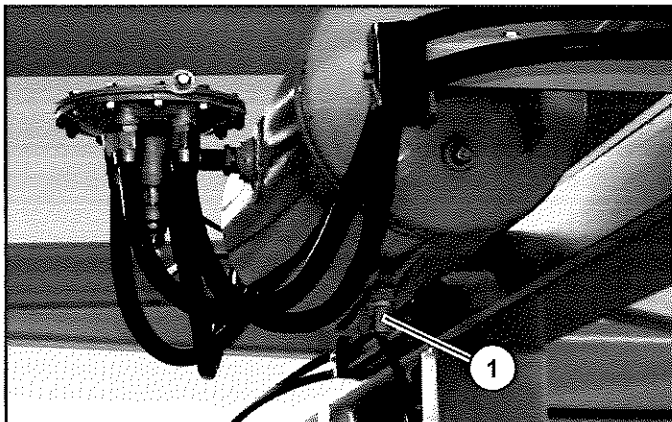

Figure 107
18. Reapply the air brake. Do this by adjusting the air valve (Item 1) (Figure 107) on the bottom of the tank. Make certain the air brakes are working correctly before transport.
16. Reapply the air brake. Do this by adjusting the air valve (Item 1) (**Figure 107**) on the bottom of the tank. Make certain the air brakes are working correctly before transport.